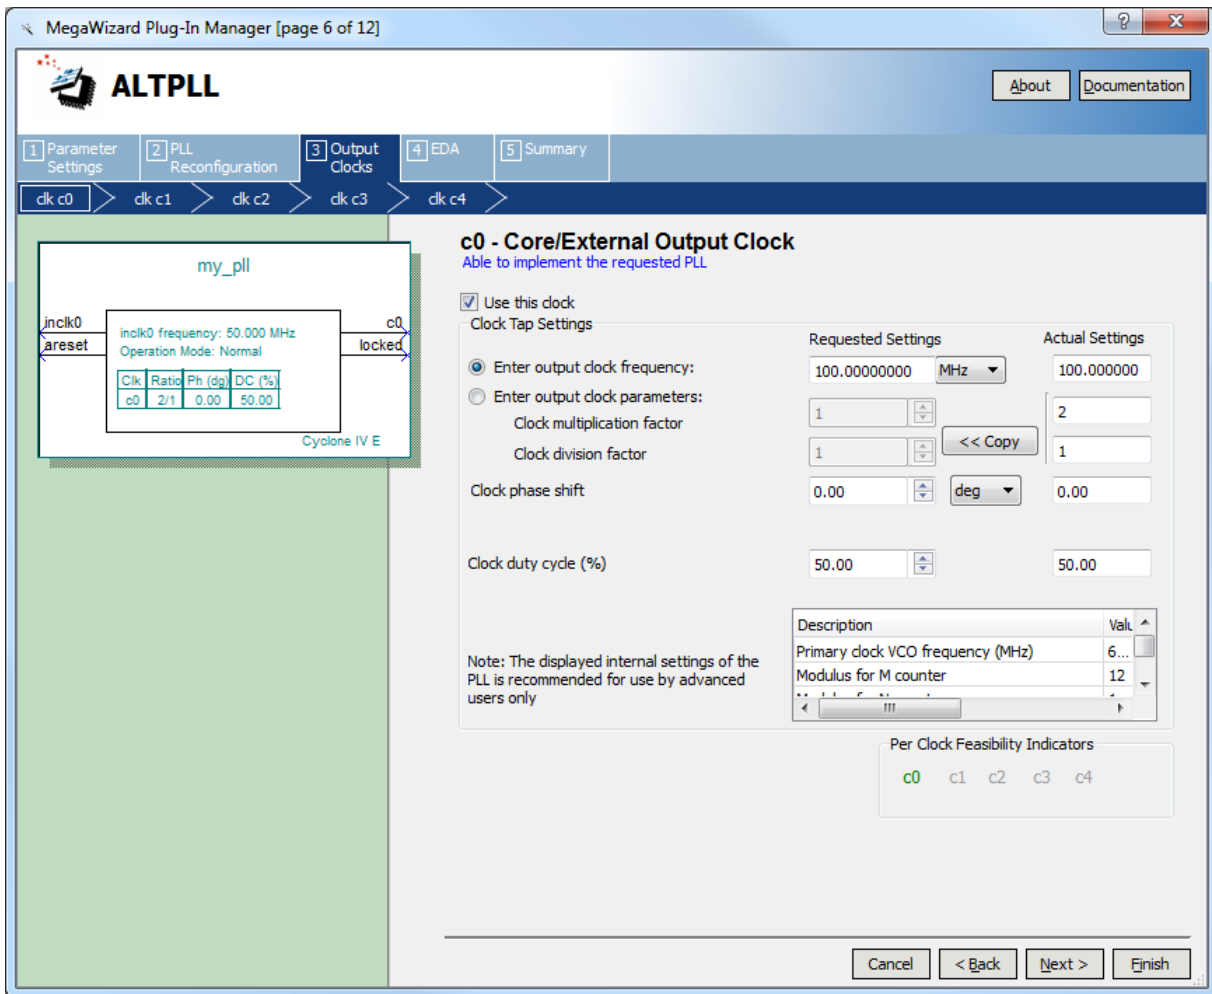

Figure 15. Settings for output c0.
5. Under the **Output Clocks** tab, enter 100 MHz after selecting **Enter output clock frequency** as shown in Figure 15. This will cause the PLL to output a 100-MHz clock for the system clock *sys_clk* . Click **Next** to go to the **clk_c1** section.